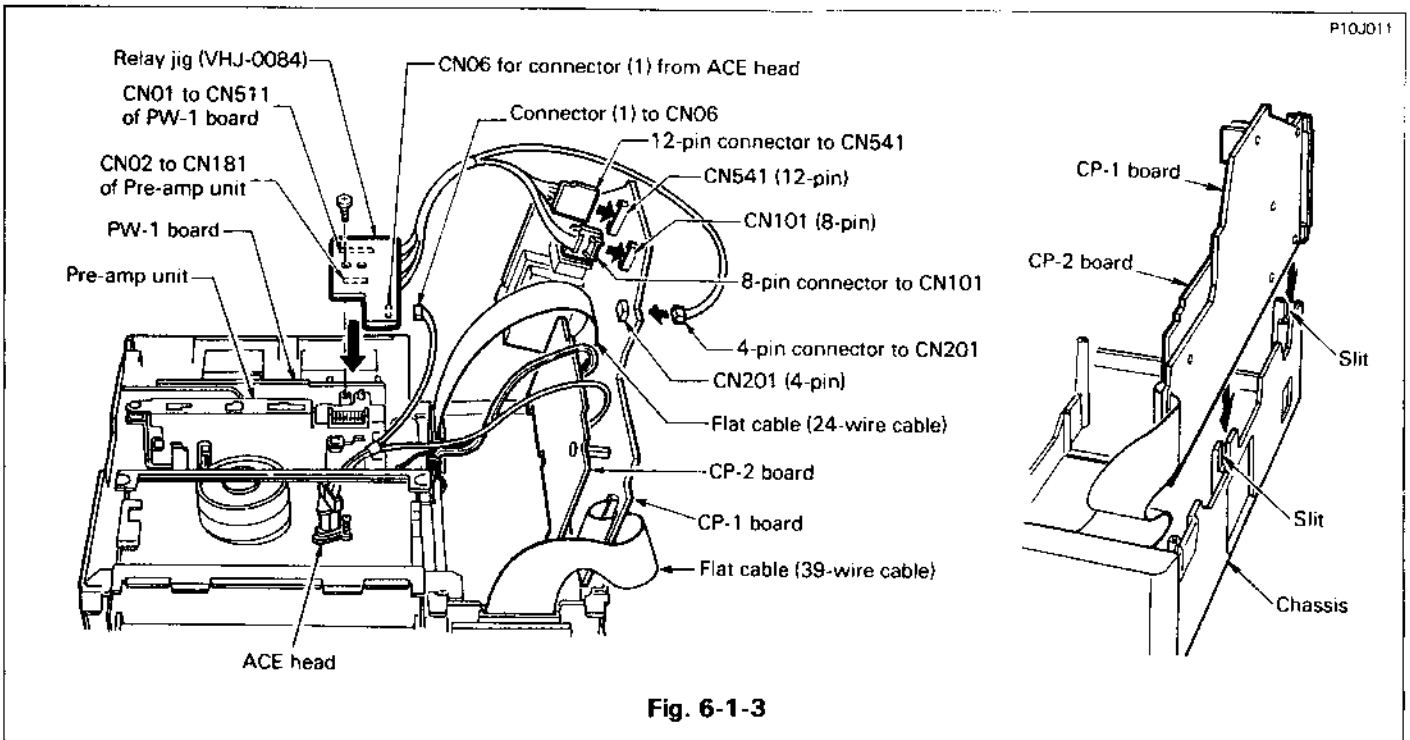

Fig. 6-1-3
2. Insert the CP-1 board with CP-2 board connected in the slit of chassis as shown in Fig. 6-1-3 (right).
3. Connect CNO1 and CNO2 of Relay jig (VHJ-0084) into connectors of the PW-1 board and the Pre-amp unit, in the direction of arrow as shown in Fig. 6-1-3 (left). Fix the relay jig with screw if necessary.
5. Connect connector (1) from ACE head to CNO6 of the Relay jig (VHJ-0084).